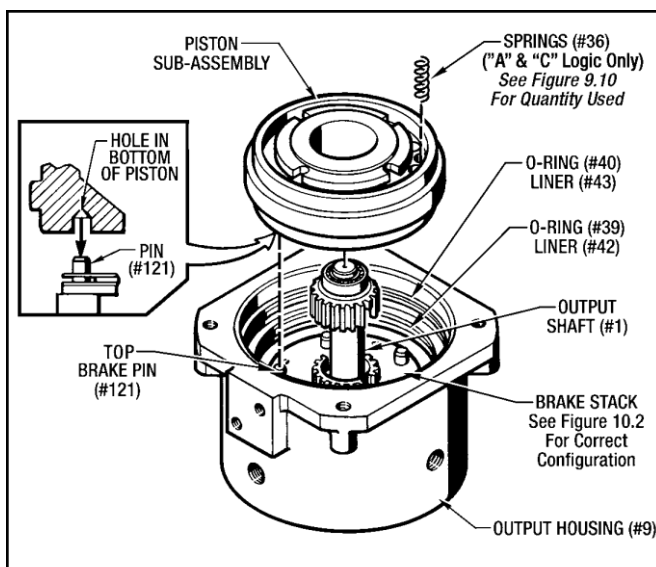

Figure 9.9 - Installing Piston Sub-Assembly
2. Carefully place the Piston Sub-Assembly into the Output Housing (#9). Make sure the hole in the bottom surface of the Piston (#3) is aligned with the top Pin (#121) as shown in Figure 9.9.